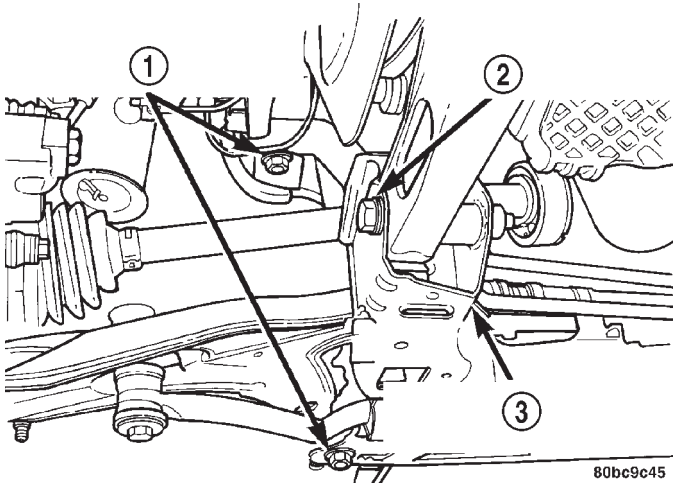

Fig. 24 Mounting Bolts
(5) Remove the bolt mounting the engine torque strut to the right forward corner of the front suspension crossmember (Fig. 24).
(7) Position a transmission jack under the center of the front suspension crossmember and raise it to support the bottom of the crossmember.
(8) Loosen and completely remove the two front bolts (one right and one left) attaching the front suspension crossmember to the frame rails of vehicle. The right side bolt can be viewed in the mounting bolt figure (Fig. 24). The left side bolt is located in the same location on the other side of the vehicle.
(9) Loosen the two rear bolts (one right and one left) attaching the front suspension crossmember and lower control arms to the body of the vehicle until they release from the threaded tapping plates in the body of the vehicle. Do not completely remove the rear bolts because they are designed to disengage from the body threads yet stay within the lower control arm rear isolator bushing. This allows the lower control arm to stay in place on the crossmember. The right side bolt can be viewed in the mounting bolt figure (Fig. 24). The left side bolt is located in the same location on the other side of the vehicle.
(4) Start the two rear crossmember mounting bolts into the tapping plates mounted in the body. The right side bolt can be viewed in the mounting bolt figure (Fig. 24). The left side bolt is located in the same location on the other side of the vehicle. Next, install the two front mounting bolts attaching front suspension crossmember to frame rails of vehicle. Lightly tighten all four mounting bolts to a approxi-
(6) Fasten the engine torque strut to the right forward corner of the front suspension crossmember using its mounting bolt (Fig. 24). Follow the procedure described in the ENGINE service manual group to properly align and tighten the torque strut mounting bolts.